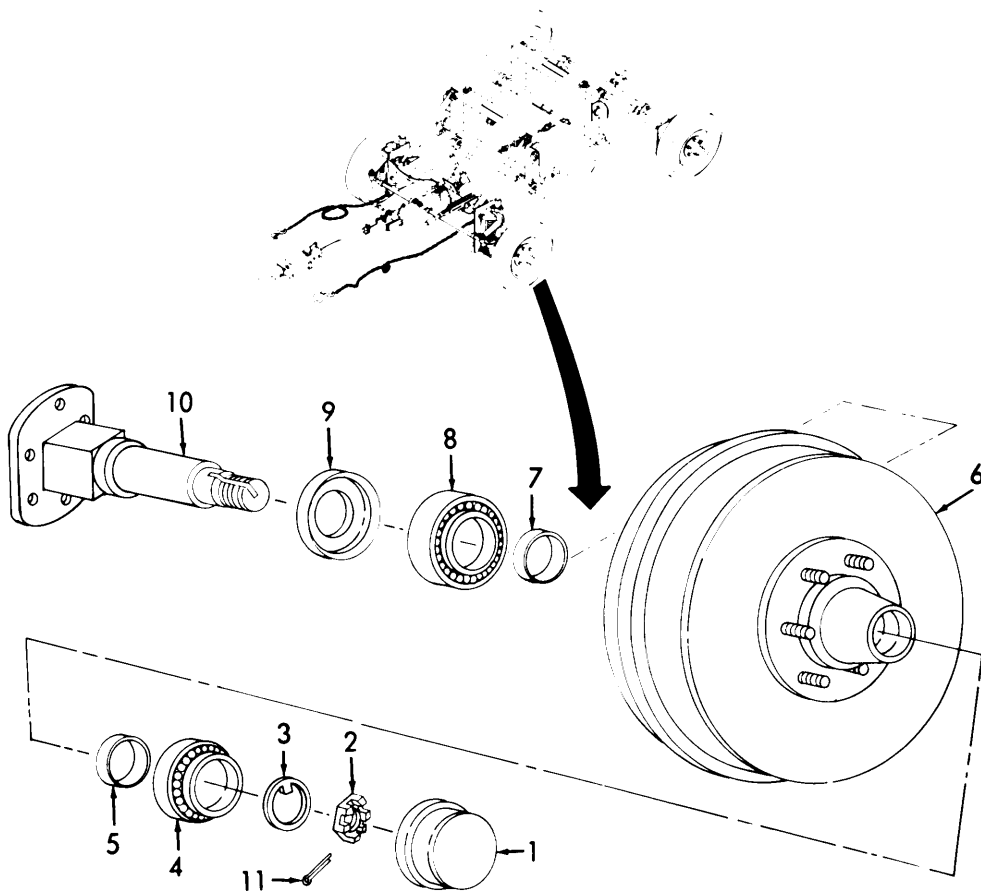

Figure 3-34. Front Wheel Bearings, Installation.
- (1) Install grease seal (9, Figure 3-34) bearing (8), and bearing (7) on spindle (10).
- (2) Install cup (5) and bearing (4) in drum (6).
- (3) Position drum (6) on spindle (10).
- (4) Install key washer (3) and nut (2).
- (5) Install new cotter pin (MS24665-357) (11) through nut (2) and spindle (10).
- (6) Install grease cap (1).